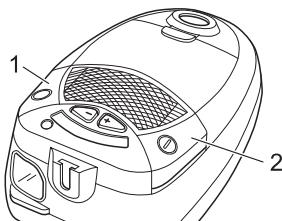

Fig. 15
1. Switch off the vacuum cleaner with the on/off switch (Fig. 15/1) and pull the plug from the mains socket.
3. To retract the power cord, push the cord retracting button (Fig. 15/2).